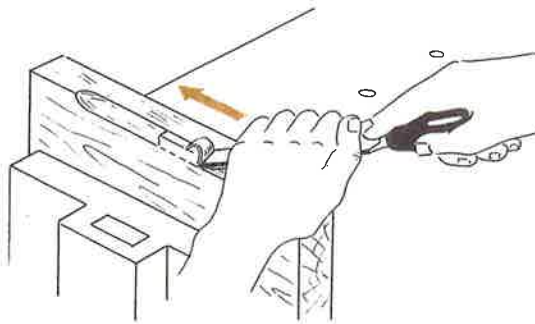

Fig. 15-8. Cutting a stop chamfer with a chisel.
3. Cut or pare by starting at one end of the stop chamfer (Fig. 15-8). Make thin cuts about one-half the length of the chamfer.